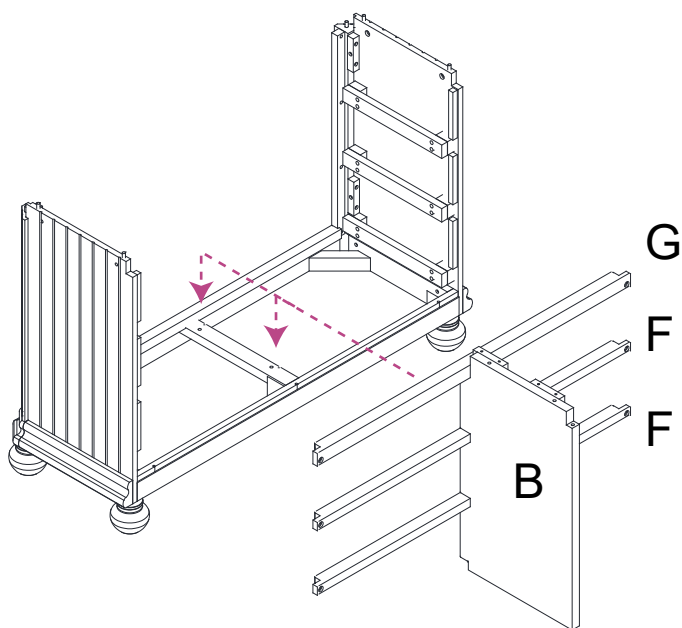

Figure 4
- ④ Attach the Middle Panel with Rails to Bottom Frame and Side Panel by using 6 Bolts ( d ) with Washers ( e & f ) as Figure 4 & Figure 4a.
4. Attach Matel Connector A (l)and Matel Connector B (m). *Figure 4*